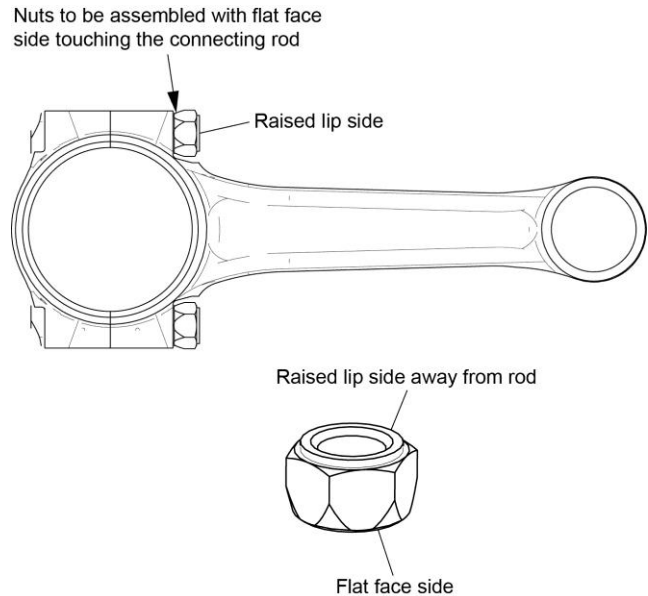

Figure 2
CAUTION: CORRECT INSTALLATION OF THE NEW NUT ON EACH NEW CONNECTING ROD BOLT IS NECESSARY FOR CORRECT CONNECTING ROD ASSEMBLY. EACH CONNECTING ROD NUT HAS TWO DIFFERENT SURFACES, ONE SURFACE IS FLAT AND THE OTHER HAS A RAISED LIP. BE SURE TO INSTALL EACH NUT ON THE CONNECTING ROD BOLT WITH THE FLAT FACE TOUCHING THE ROD AS SHOWN IN FIGURE 2. THE RAISED LIP SURFACE IS AWAY FROM THE ROD. THE CONNECTING ROD BOLT CANNOT BE TIGHTENED CORRECTLY IF THE NUT ON THE CONNECTING ROD IS INSTALLED INCORRECTLY.
5. Install the nut on the connecting rod bolt where the flat face of the nut touches the connecting rod as shown in Figure 2.